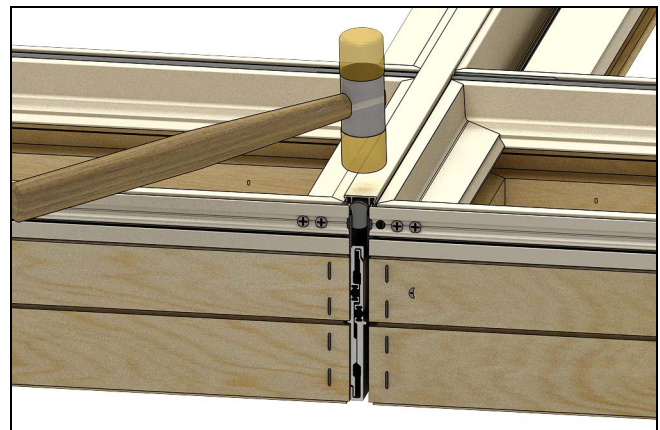

Figure 43 (A148 frame trim removed for illustrative purposes, MRF shown, similar on other space mull applications)
3. Apply the mull cover by inserting one end into the frame kerf and tapping the cover into place with a plastic headed hammer or rubber mallet the first 6-10" from the end. Then insert the opposite end into the frame kerf and tap into place along the length of the mull. See Figure 43.